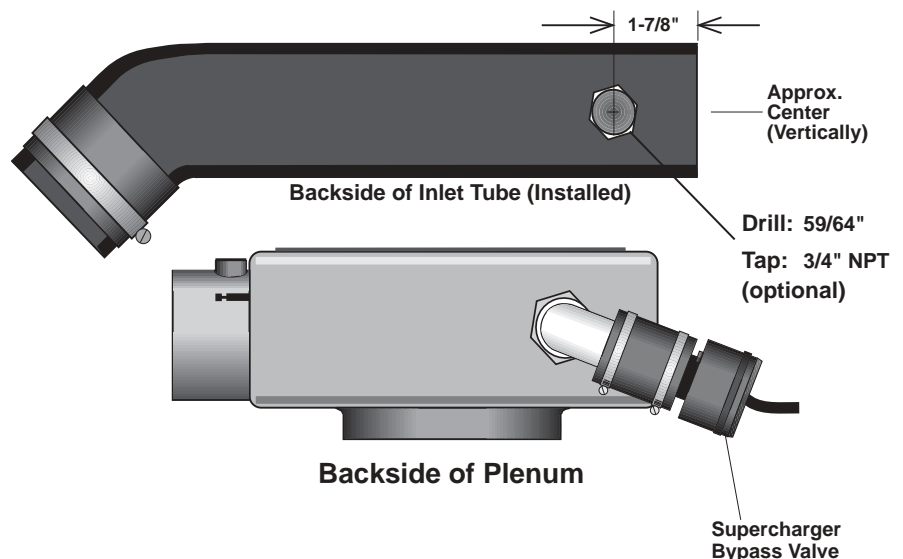

Fig. 10-a
- Center punch and drill a 5/64" hole into the inlet tube and thread with a 3/4" NPT tap. (See Fig. 10-a for hole position.)